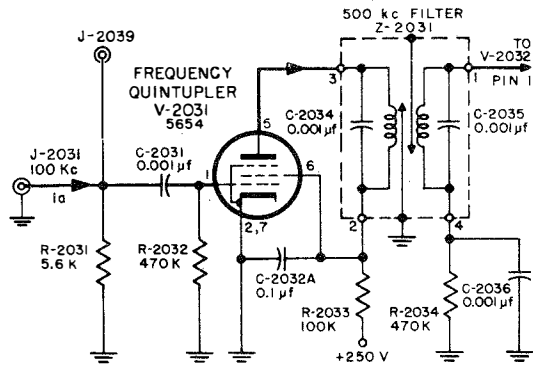

Figure 2-5. RFO Unit 2, Frequency Quintupler V-2031, Simplified Schematic
(1) FREQUENCY QUINTUPLER V-2031.—The 100-kc output (1a) of unit 1 is applied to the grid of V-2031 (figure 2-5) through J-2031, transmission-line terminating resistor R-2031, and grid-leak network R-2032 and C-2031. Test point J-2038 is provided to test the input (approximately 13 volts). Quintupler V-2031, operated class C, delivers 100 kc and harmonics to filter Z-2031. Frequencies other than the fifth harmonic, 500 kc, are attenuated by Z-2031.